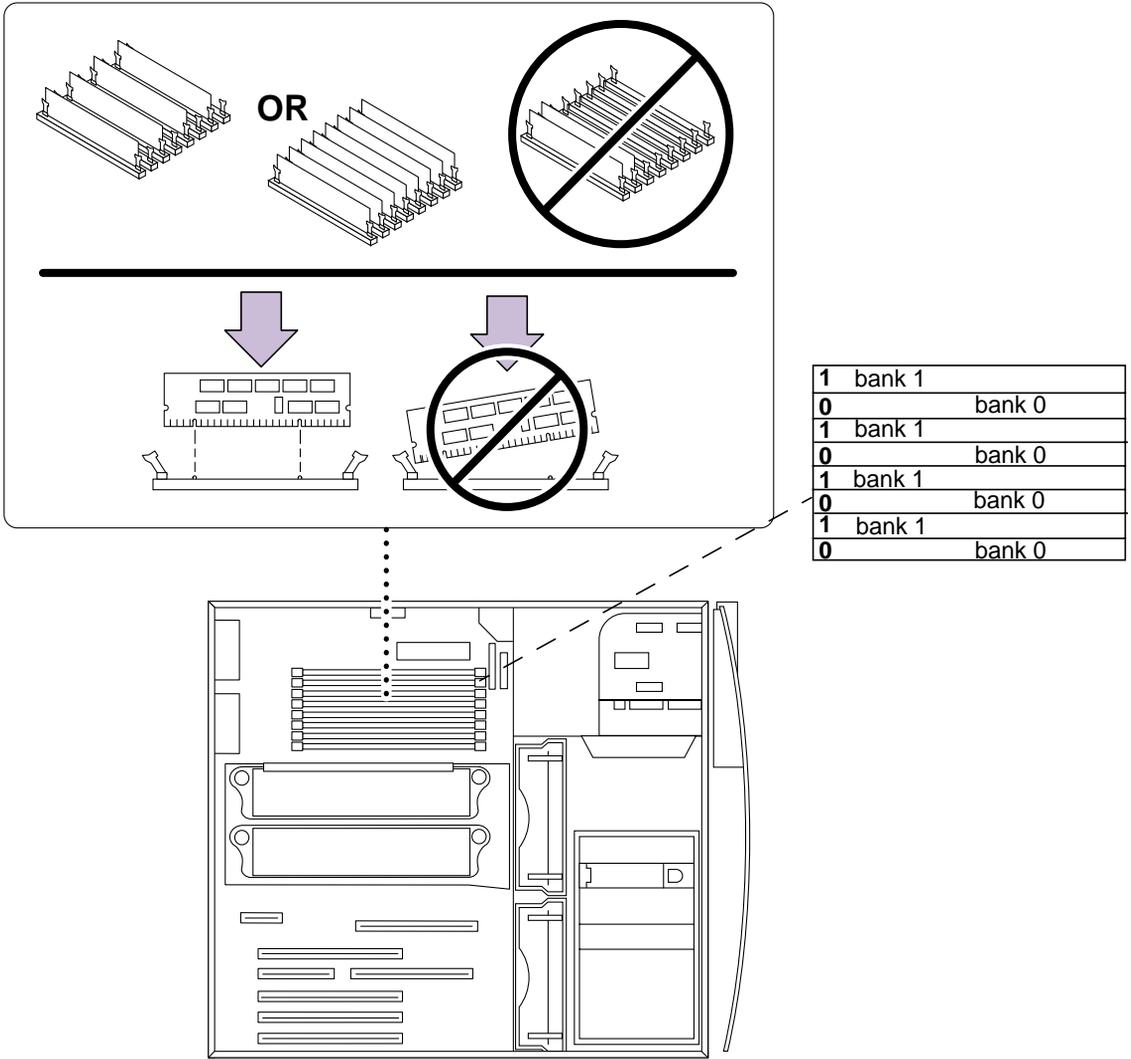

FIGURE 8-19 Removing and Replacing a DIMM
4. **Press down the ejection lever at each end of the DIMM connector (FIGURE 8-19).**
- The default location for DIMMs installed at the factory is the four connectors labeled “0” (FIGURE 8-19).
3. **Install the DIMM as follows (FIGURE 8-19):**